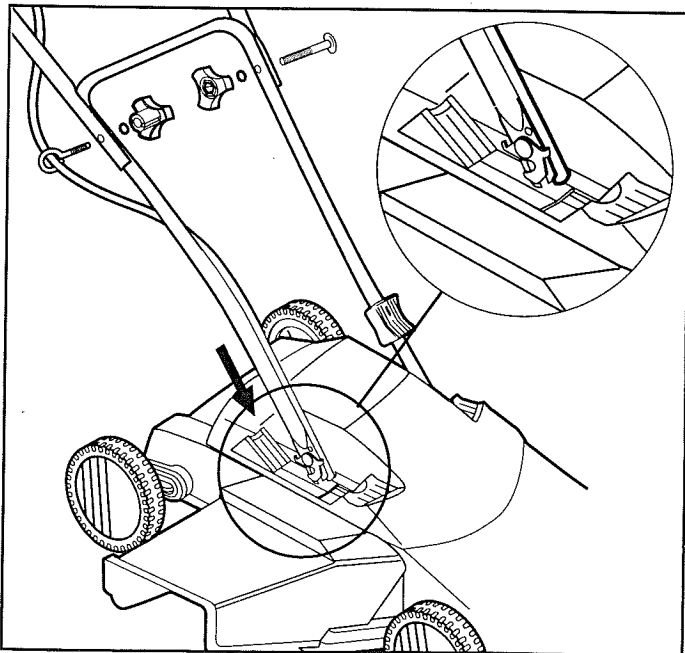

FIGURE 2
- Insert the ends of the lower handle half through the rubber flaps at the sides of the mower shroud, as shown in Figure 2. Under the rubber flaps are steel pins. You may have to manually open the flaps in order to see the pins. Push the handle half firmly against the pins until you feel it snap into place.
- Fasten the upper and lower handle halves together using the eye bolt (already installed on the power cord) and the curvedhead bolt. Install one of the star washers and one of the plastic knobs onto the threaded end of the eye bolt such that the eye portion of the bolt is on the outside of the handle, as shown in Figure 2. Tighten the knob firmly.
Install the curvedhead bolt from the outside of the handle on the other side, as shown in Figure 2. Install the remaining star washer and plastic knob on the threaded end of this bolt. Examine the mower to ensure that both plastic knobs and star washers are on the inside of the handle and the eye bolt is on the outside (on the same side of the mower as the switch) and the head of the curvedhead bolt is on the outside of the handle. Compare closely with Figure 2.